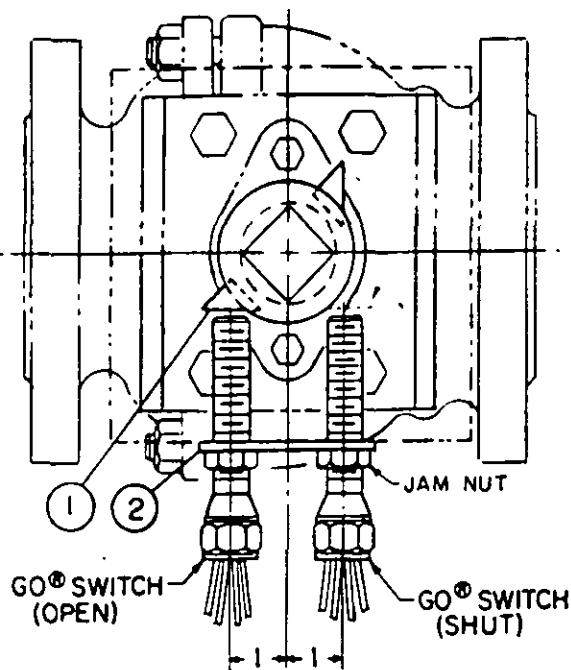

FIG. 1
1. With Valve Actuator removed slide Switch Activator (item 1) onto drive shaft as shown in figure 1.
2. To Mount Mounting Bracket (item 2) match drill and tap for three #10-24 UNC screws and attach item 2 to Actuator mounting bracket with items 4 & 5.
3. Screw GO Switches into threaded holes on Mounting Bracket (item 2) and secure with jam nuts included with Switches.